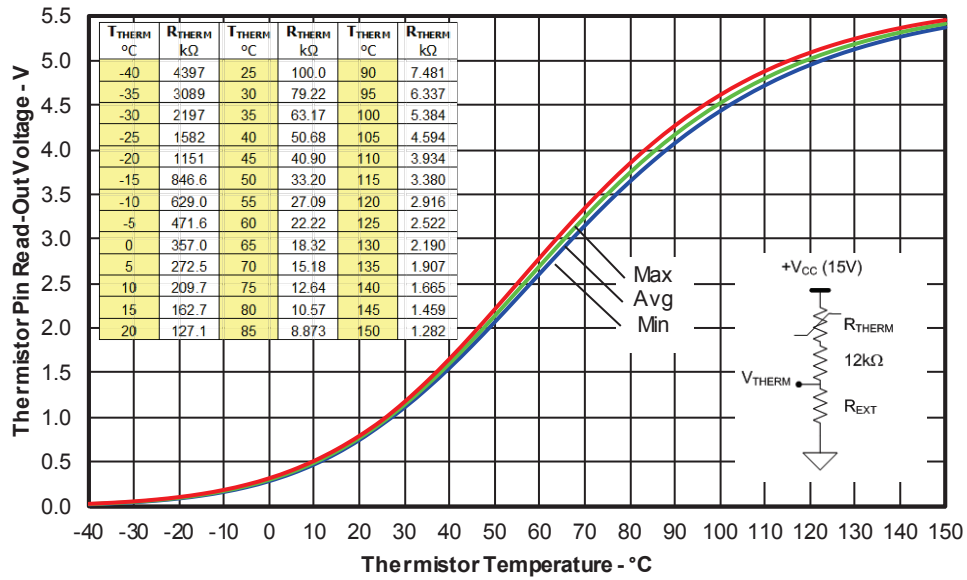

Figure 10. Thermistor Readout vs. Temperature (7.5kohm R_{EXT} pull-down resistor) and Normal Thermistor Resistance values vs. Temperature Table.
3. Value of the boot-strap capacitors depends upon the switching frequency. Their selection should be made based on IR design tip DT04-4, application note AN-1044 or Figure 10. Bootstrap capacitor value must be selected to limit the power dissipation of the internal resistor in series with the VCC. (see maximum ratings Table on page 3).